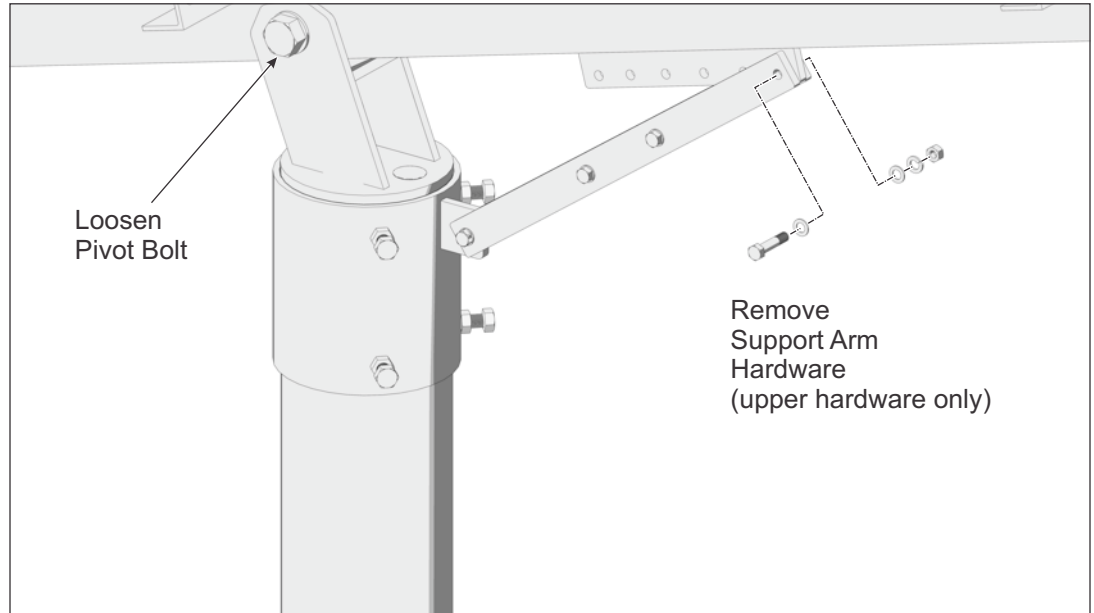

Figure 7-1: Preparing to Adjust the Tilt Angle
- A. While one person holds the south edge of rack, the other loosens the Pivot Bolt and removes the upper 3/8" hardware attaching the Support Bar to the Strongback. (See Figure 7-1)